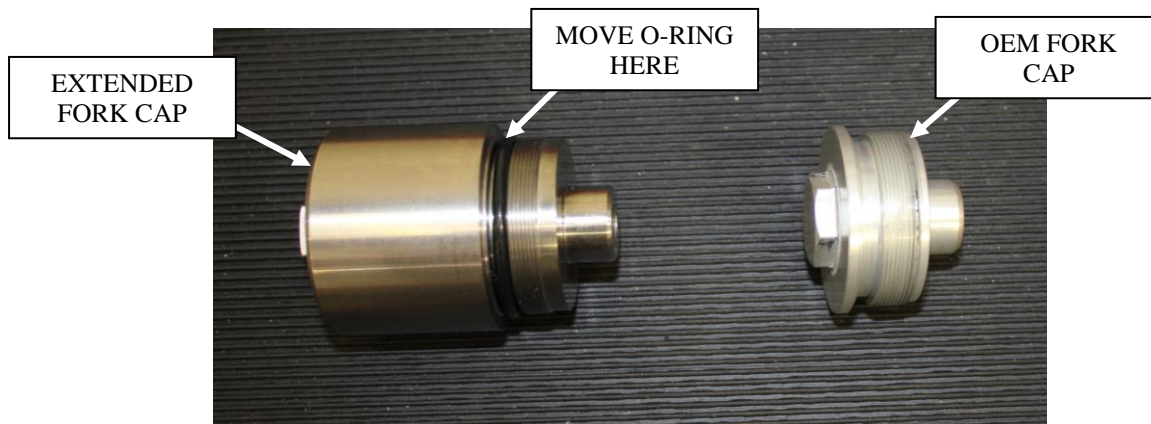

Figure 27: Swap the O-ring from the OEM cap to the extended cap.
11. Remove the O-ring from the OEM fork cap and reinstall it on the new extended fork cap supplied with the rake kit. Inspect the O-ring for damage and replace it if necessary. See Figure 27.